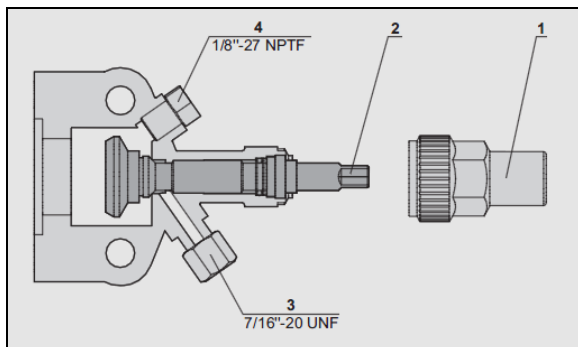

FIGURE 83: COMPRESSOR SHUT-OFF VALVE BACKSEATED POSITION (NORMAL OPERATING POSITION)
4. Backseat the compressor suction shutoff valve (FIGURE 83).
13. Shut down engine and backseat suction and discharge shutoff valves (FIGURE 83).
2. Backseat (stem out) the two compressor shutoff valves (FIGURE 83).
3. Install A/C pressure gauges at the compressor shutoff valves service ports (item 4, FIGURE 83).